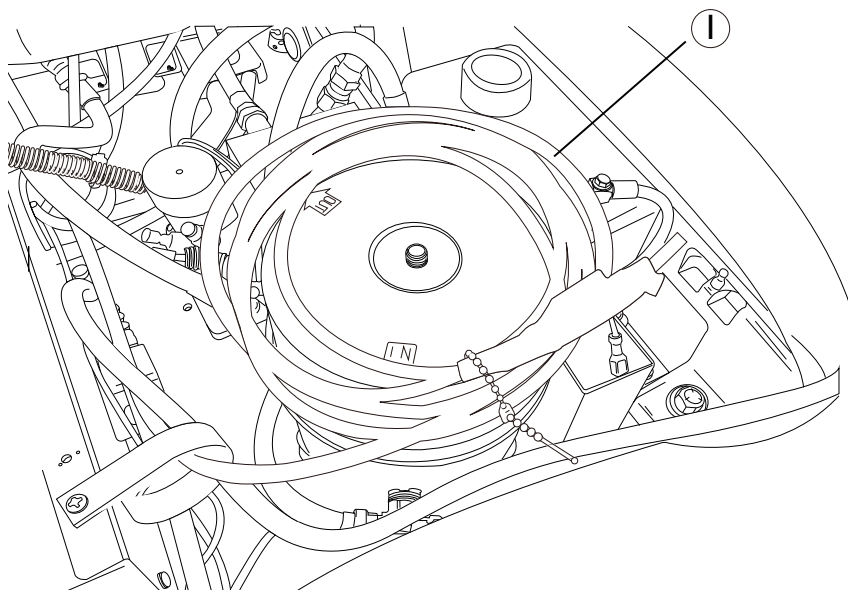

Figure 20. AirSoothe tubing coil
1. Locate the coiled yellow 1/8" ID Tubing (Figure 20, item 1) in the base of the chair.